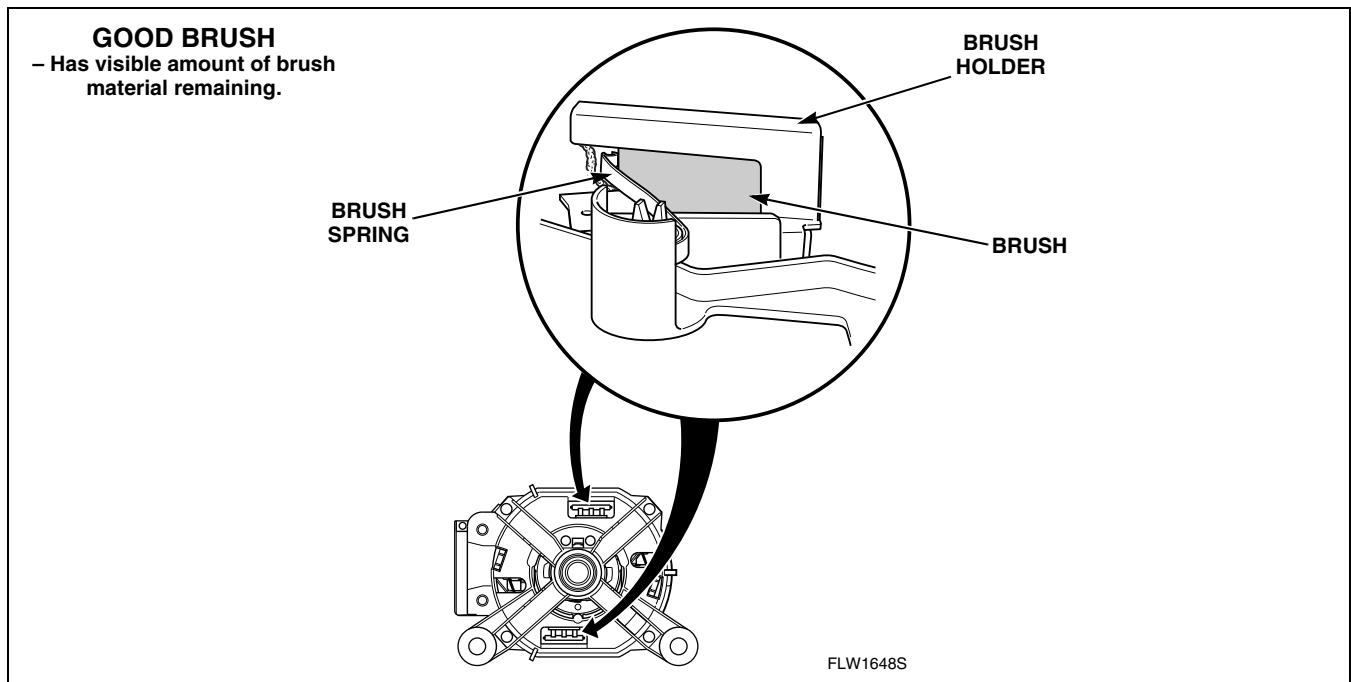

Figure 13
- Using a flashlight, view brushes through holes in motor end shield. Refer to *Figure 13*.
- Inspect both brushes to determine if either brush is worn. Refer to *Figures 13 and 14*.
- If there is a visible amount of brush left, use a screwdriver or similar device to push brush back and forth to loosen and remove dust. Refer to *Figure 13*.